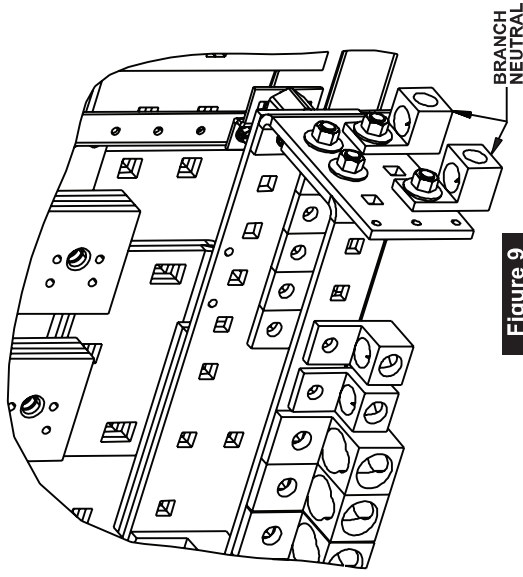
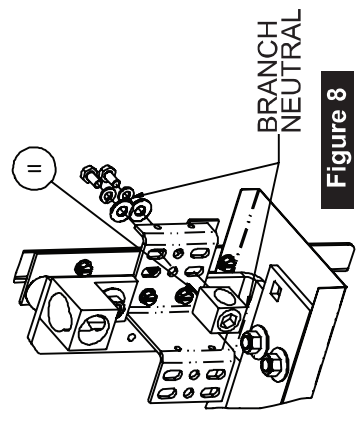

Figure 9
Figure 8
10. Refer to Figure 9: The branch neutral is located at the bottom of the "Z-rails" (or mirrored at the top depending upon the feed cable location). Two different neutral lug assemblies are included in the kit; be sure to install the type pictured below. The neutral lug assemblies can be mounted as shown or on any available hole of the branch neutral, depending on cable feed location. Torque all hardware as specified on the rear of the deadfront.
NOTE: Two types of neutral lug assemblies are included in this kit; be sure to install the correct one. For Switchboard applications, skip to Step 10 and use the lug assembly shown in Figure 9. For Panelboard applications, proceed to Step 9 below & use the lug assembly shown in Figure 8.
9. Refer to Figure 8: Installing the Branch Neutral Lug (Item 11) in a panelboard. The Branch Neutral is located at the bottom of the Z-trails (or mirrored at the top depending upon the cable feed location) and can be mounted on either side of the Branch Neutral depending on cable feed location. Torque all hardware as specified on the rear of the deadfront.